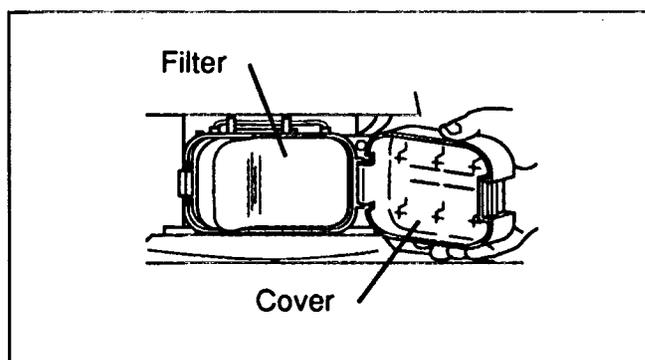

Figure 1
Figure 1 shows the '93 carburetor; '94 models have an additional wire clamp to release.
- To remove air filter, snap cover latch open, swing to side and unhook. Remove the cover and air filter (**Figure 1**).